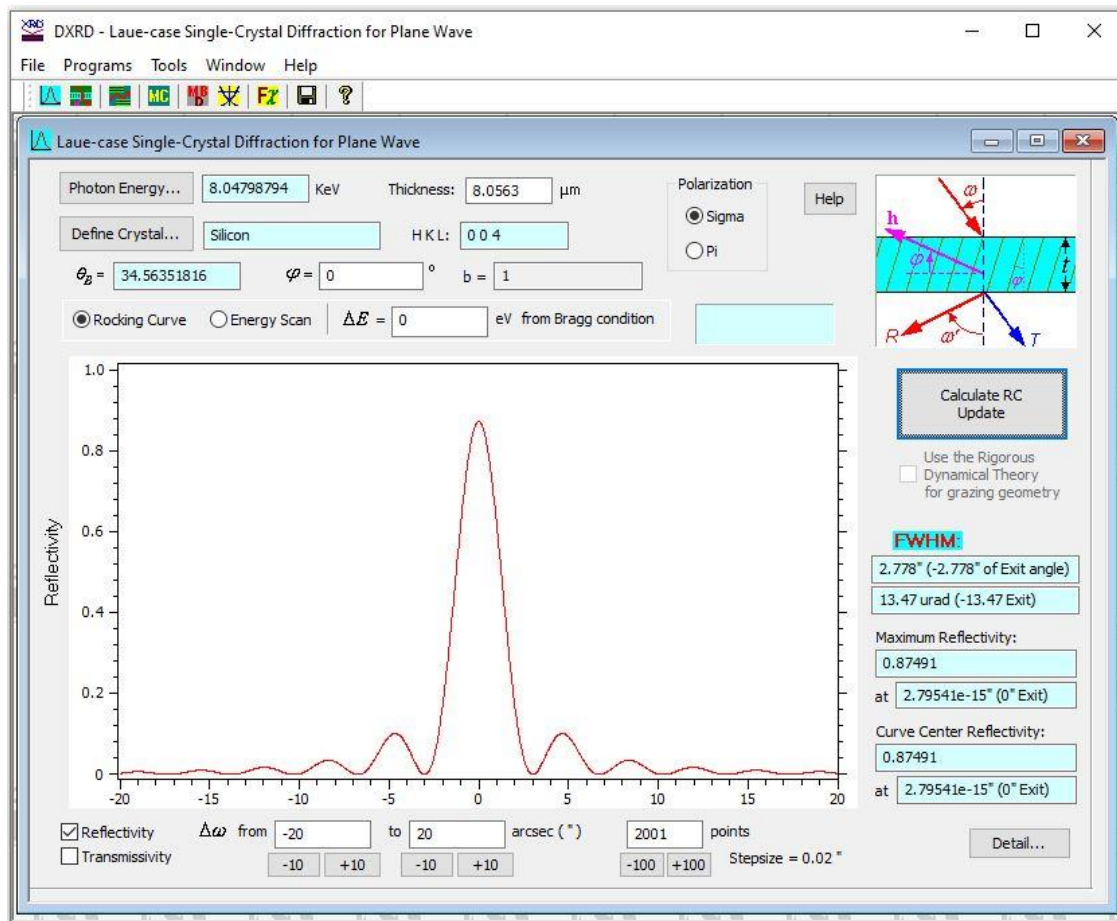

Figure A2. The Laue-case Diffraction program.
This program is similar to the above Bragg-case program. The major difference is that the "**Incident Angle ω** " and the "**Exit angle ω'** " are defined differently with respect to the Crystal Surface, see Figure A2. Also see the definition of the **Asymmetric Angle φ** . The crystal thickness for the Laue case must always be finite (> 0 , NOT -1). The Reflectivity (R) Curve for the Laue cases show oscillation fringes in most cases. In particular, thick crystals have rapid reflectivity oscillation. For a constant incidence angle, the reflectivity also changes periodically with crystal thickness, which is called the "**Pendellösung**" phenomenon. The periodicity is called the "**Pendellösung distance**", denoted by $\tau(\Delta\omega)$. When the crystal thickness is $t = N\tau$, the reflectivity becomes 0 at $\Delta\omega$. The reflectivity is maximized when at $t = (N + \frac{1}{2})\tau$. Here $N = 0, 1, 2, \dots$ is an integer. In the "**Detail...**" dialog, both the analytical "**Pendellösung distance**" and "**Half Pendellösung distance**" derived from analytical equations are provided at the Curve Center. The analytical values may be accurate for low-absorption cases. Numerical calculations of τ has not been implemented yet.